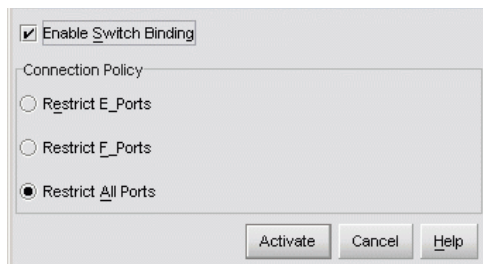

Figure 3-35 Switch Binding - State Change Dialog Box
- a. At the *Hardware View*, click *Configure* and select *Switch Binding* and *Change State*. The *Switch Binding - State Change* dialog box displays (Figure 3-35).